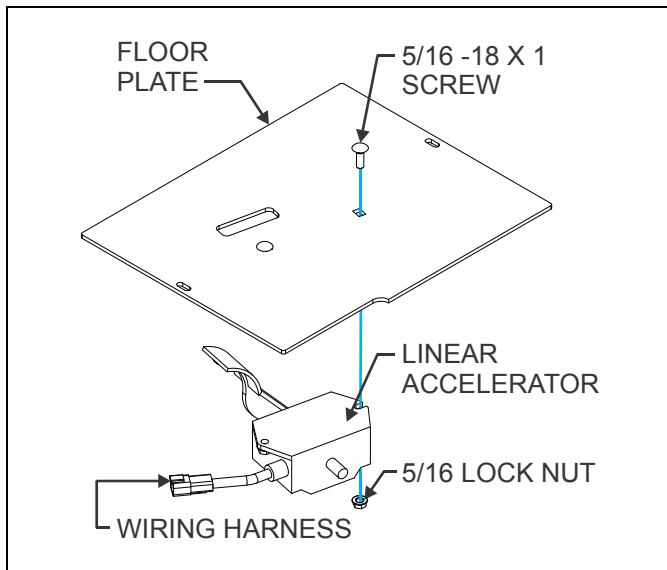

Figure 3-36: Linear Accelerator Module Assembly
The accelerator assembly consists of the linear potentiometer, harness, and accelerator pedal (See Figure 3-36).
5. Remove the two round head screws (5/16-18 x 1) and hardware securing the accelerator to the floor panel (See Figure 3-36).
6. Install the replacement accelerator onto the floor plate (See Figure 3-36).